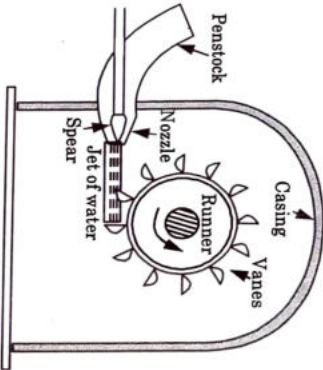

Fig. 3.19.1. Pelton turbine.
1. Fig. 3.19.1 shows the casing of a Pelton wheel turbine.